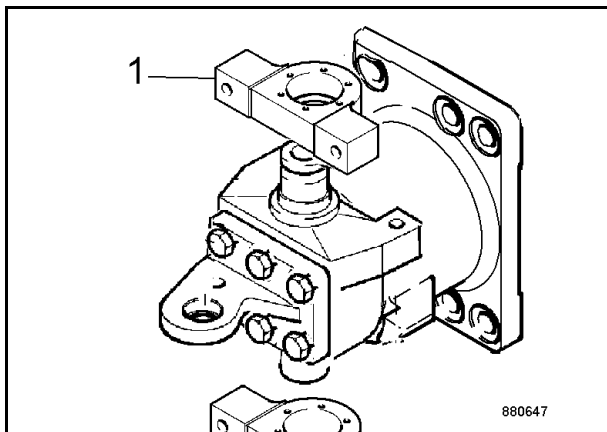

Fig. 16
24. Knock both bearing blocks 1 (Fig. 16) onto the bearing journals.